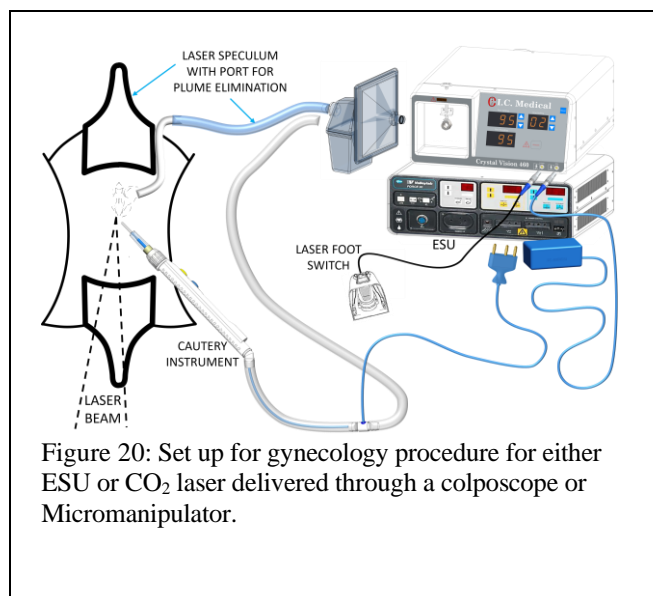

Figure 20: Set up for gynecology procedure for either ESU or CO₂ laser delivered through a colposcope or Micromanipulator.
3. Refer to Figure 20 for set-up.